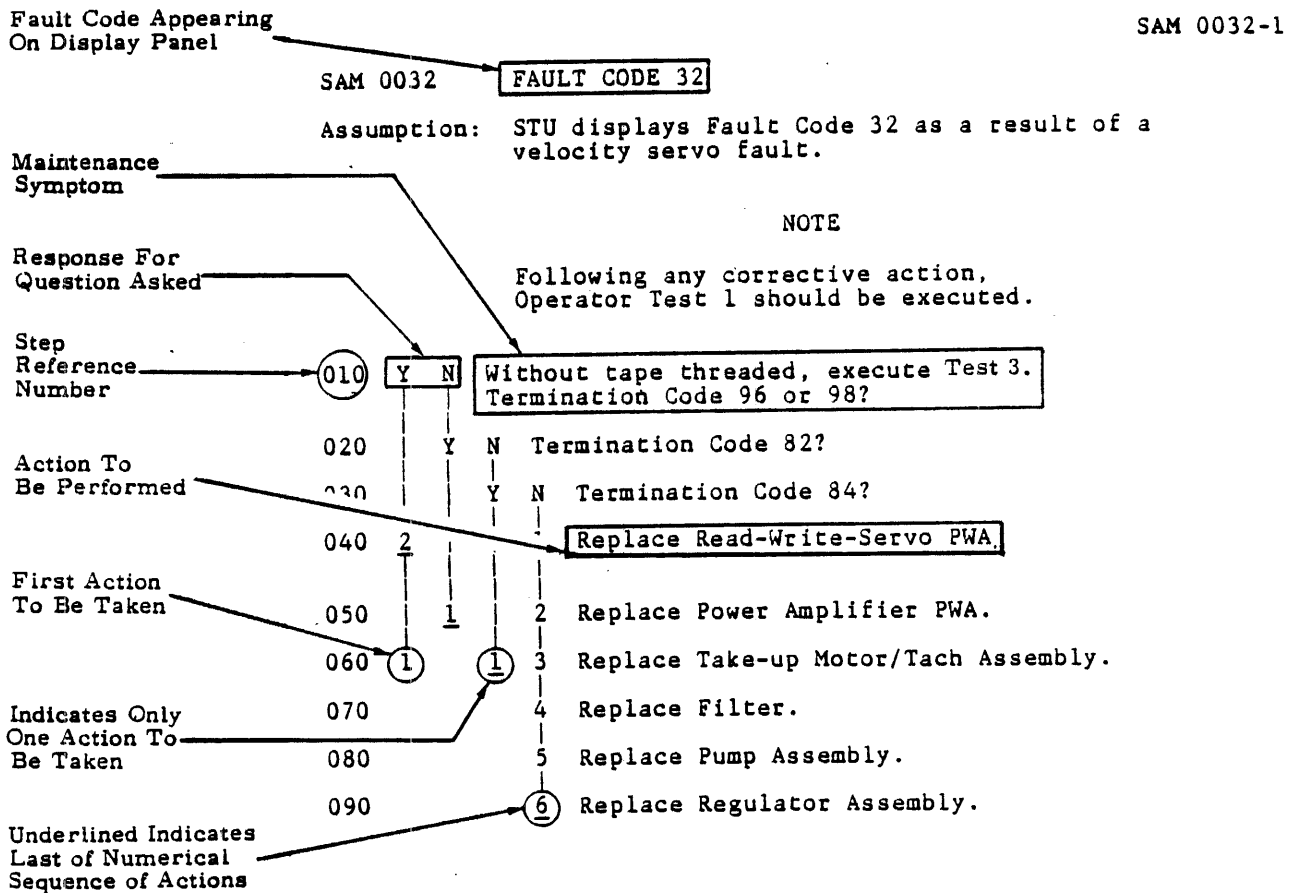

Figure 6-2. EXAMPLE OF STRUCTURED ANALYSIS METHOD (SAM) TABLE
After a fault code appears on the display panel, refer the fault code number directly to the corresponding number of the SAM which are listed numerically on subsequent pages. The basic SAM format (Figure 6-2) uses YES (Y) or NO (N) responses to sequential conditions to lead the customer engineer to appropriate corrective action.